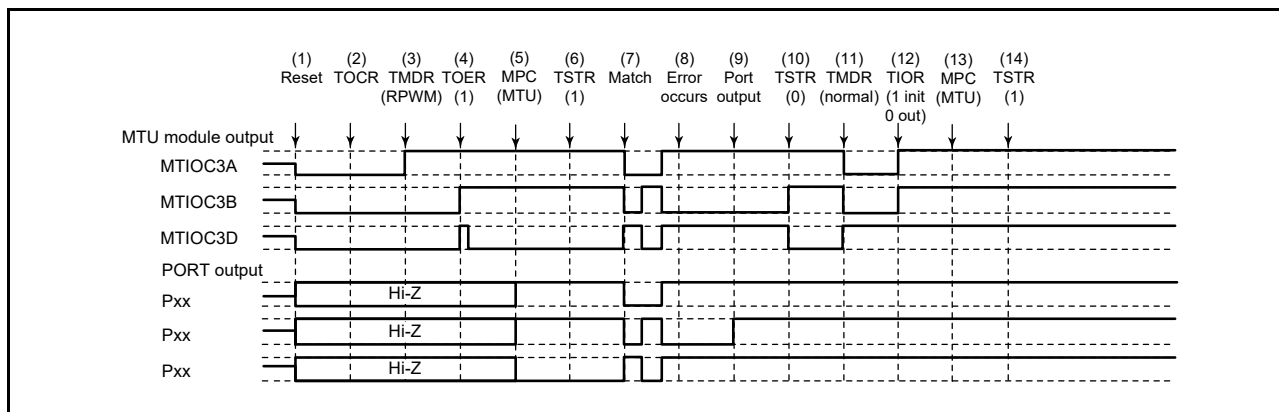

**Figure 19.168 Error Occurrence in Reset-Synchronized PWM Mode, Recovery in Normal Mode**
Figure 19.168 shows a case in which an error occurs in reset-synchronized PWM mode and operation is restarted in normal mode after re-setting.
(1) to (10) are the same as in Figure 19.168.
(11) Set PWM mode 1 (positive-phase MTU output goes low, and negative-phase output goes high).
(12) Initialize the pins with the TIOR register. (In PWM mode 1, waveforms are not output to the MTIOCnB (MTIOCnD) pins. To output a specified level, make necessary settings for general output ports in the port direction registers (PDR) and port output data registers (PODR) of the I/O ports.)
(13) Set MTU output using the MPC and port mode registers (PMR) corresponding to the I/O ports.
(14) Restart operation by setting the TSTRA register.
(11) Disable output in MTU3 and MTU4 with the TOERA register.
(12) Select the complementary PWM output level and enable or disable cyclic output with registers TOCR1A and TOCR2A.
(13) Set complementary PWM mode (MTU cyclic output pin goes low).
(14) Enable output in MTU3 and MTU4 with the TOERA register.
(15) Set MTU output using the MPC and port mode registers (PMR) corresponding to the I/O ports.
(16) Restart operation by setting the TSTR register.
(11) Set MTU output using the MPC and port mode registers (PMR) corresponding to the I/O ports.
(12) Restart operation by setting the TSTR register.
(13) The reset-synchronized PWM waveform is output on compare match occurrence.